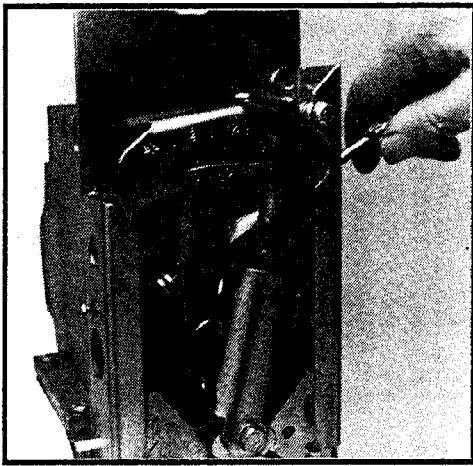

Figure 14. Loosening Crank Arm Clamp Screw.
Mounting to Honeywell Q601E Valve Linkages: (See Figures 14 through 19)
9. Loosen crank arm clamp screw (See figure 14).
10. Loosen and remove the four (4) mounting bolts for the motor.